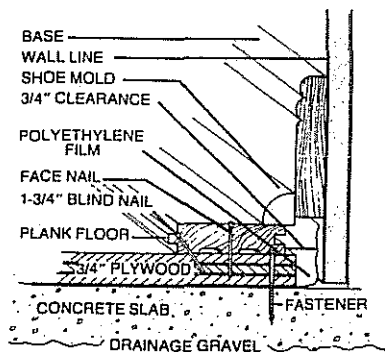

Fig. 1
CONCRETE - One successful method of installing 3/8" Continuous Strip® over on, or above grade concrete, is to provide a Plywood/OSB nailing surface over 4 mil polyethylene film. Your poly-film should be laid loosely over the entire floor with edges lapped 4" and lapped 4" up your wall (Fig. 1). Next, lay down 3/4" x 4' x 8' sheets of exterior grade plywood/OSB with 1/4" gaps between sheets and with your end joints staggered every 4 ft. Fasten down your subfloor with powder-actuated or hammer-driven concrete nails. Use a minimum of 18 nails per panel, starting at one end of the panel and working toward the opposite edge to be sure of flattening out the plywood and holding it securely.
5. Pre-drill and face-nail the first row of strips using a 7d flooring nail or equivalent every 8" along the groove side (Fig. 1).
7. Face nail the first row (Fig. 1) and next row of strips by hand. Pre-drill your nail holes at a 45 degree angle down through the nailing groove on top of the tongue. The next rows should blind nailed. Avoid bruising the wood by using a nail punch to drive the nails the last 1/8" into the tongue. Use 7d flooring nail or equivalent.